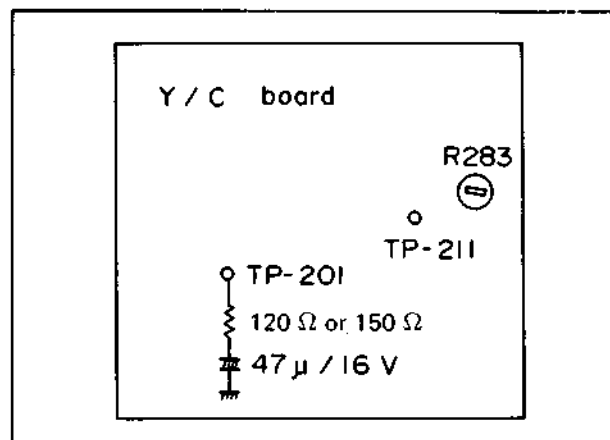

Fig. 5-34 Record color killer
4. Connect an attenuator ($47 \mu + 120 \Omega$) between TP-201 and ground as shown in Fig. 5-34.